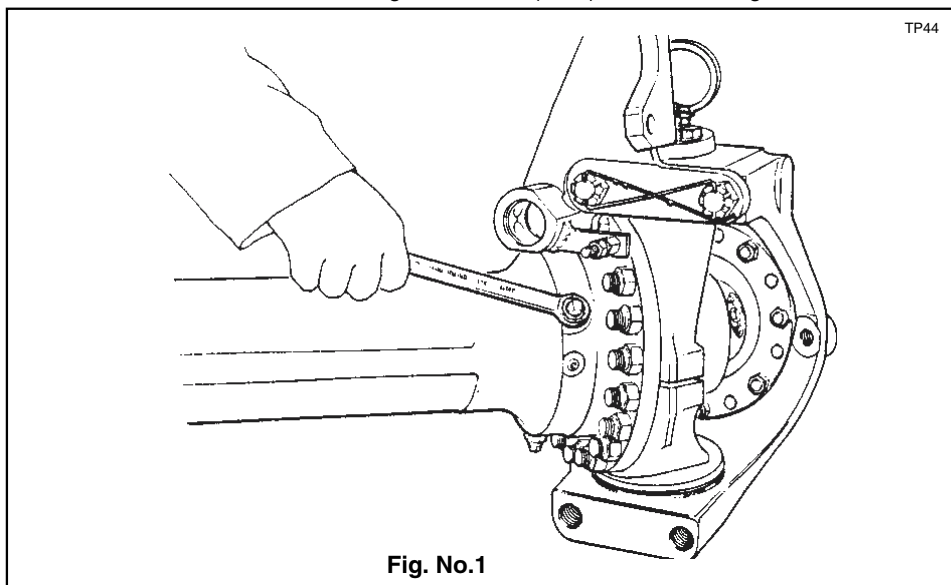

Fig. No.1
- 2.7 Unscrew and remove U.J. oil seal housing lockscREW nuts (115*) as shown in fig. no.1.